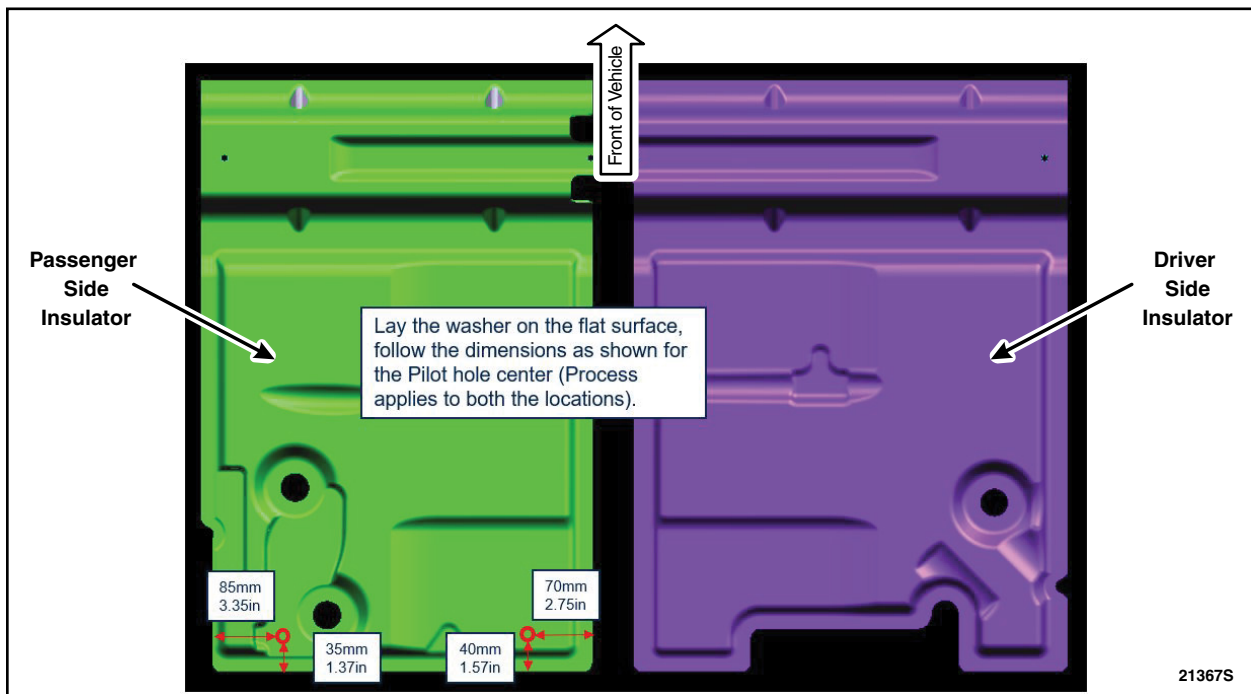

FIGURE 4
8. Measure and mark the two locations on the passenger side insulator. See Figure 4.